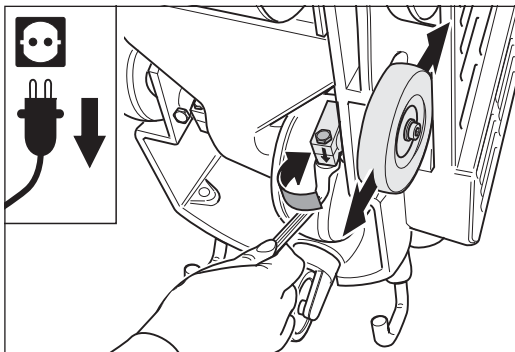

Fig. 84 Release the screw on the right-hand wheel clamp.
- 7 Release the clamping screw at the wheel clamp of the adjustable wheel (fig. 84) and place the setting fixture against the machine housing again.